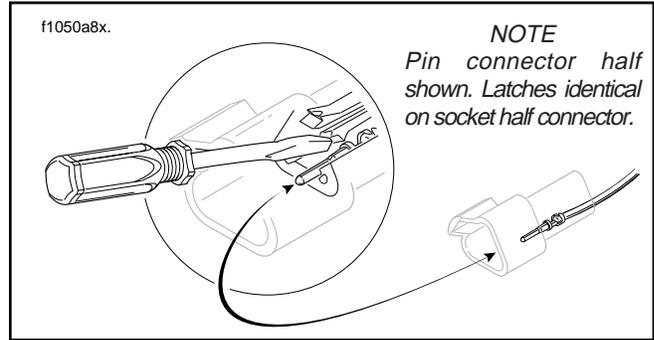
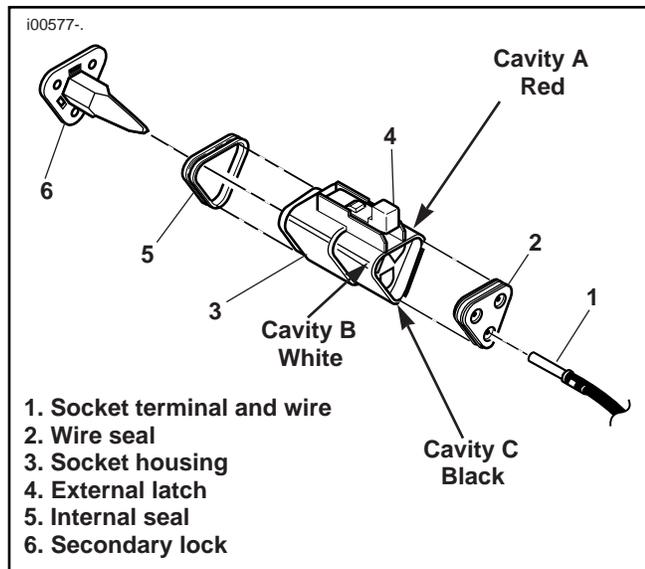

Figure 6. Depressing Terminal Latches
Figure 5. 3-Place Deutsch Socket Connector
11. Remove the secondary locking wedge (6) as follows: Insert the blade of a small screwdriver between the socket housing (3) and locking wedge (6) inline with the socket holes. Turn the screwdriver 90 degrees to pop the wedge up.
12. See Figure 6. Gently depress terminal latches inside socket housing and back out sockets through holes in rear wire seal. Cavity letters and wire colors are shown in Figure 5. Cavity letters are molded in the housing.
10. See Figure 5. Depress external latch (4) and unplug the connector.
- Note position of rear speedometer gasket (4) and remove it. Gently push on rear of speedometer while simultaneously pulling speedometer and front gasket from bracket.
- Do not remove front gasket (5) from the speedometer (6).
2. Route speedometer 3-wire harness back to its original position. See Figure 5. Insert wires and terminals into connector [65].